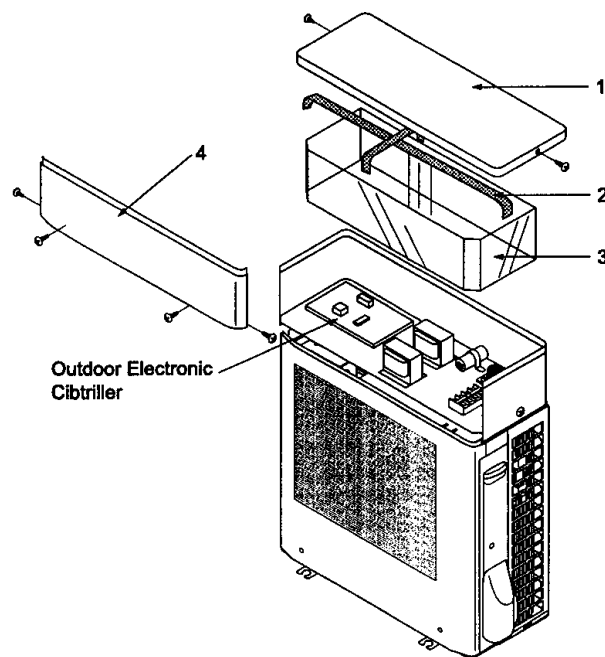

Fig. 17
4. Remove the front panel. (Four screws) (Fig.17)